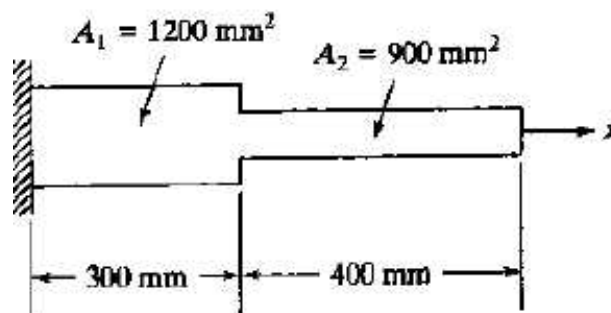

Fig. 6
8. Determine the Eigen values and Eigen vectors for the stepped bar shown in the Fig.6. Take $E = 200$ GPa, $\rho = 7840$ kg/m³